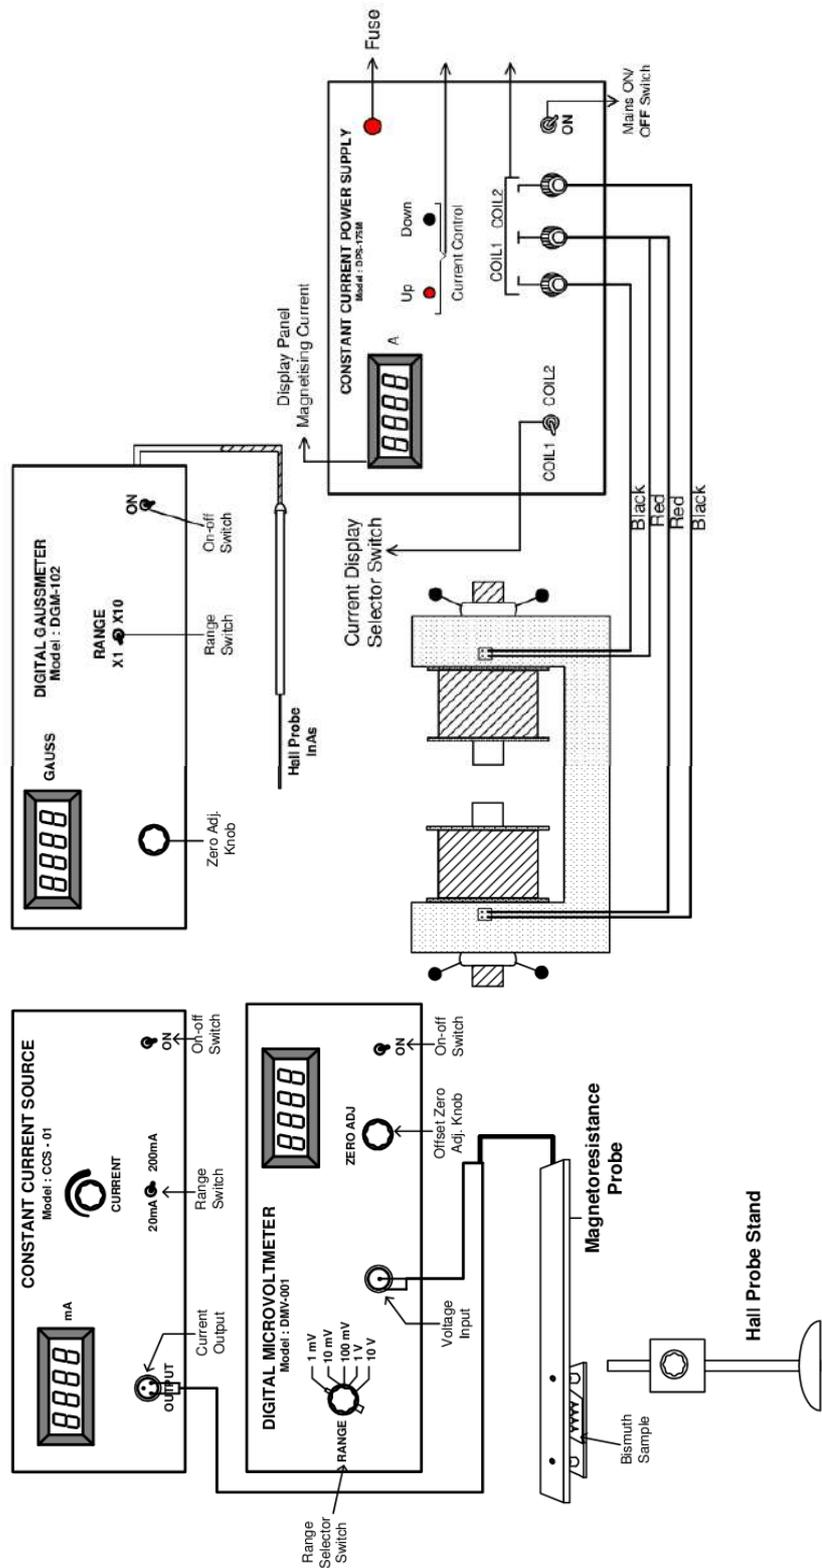

Fig.1: Panel Diagram of the magneto-resistance set up
where l_1-l_2 is the length of the sample tube and A its area of cross-section and H_1 and H_2 are the magnetic field strengths along the z axis as indicated in the above figure. Now think of a physical balance in which the sample tube is hung from one side and is subject to a magnetic field. The other side has the standard weight pan as shown in figure 1. When the magnetic field is zero the weight of the sample is determined by the physical balance and is entirely due to gravity. When the field is switched on the magnetic force manifests as an apparent weight change of the sample (will the weight increase or decrease? How is this related to magnetic nature of the sample?). The force can easily be measured in terms of a weight by determining the new weight of the sample. This is known as a Guoy balance after the French physicist Louis Georges Guoy. A modern version of the Guoy balance available in the laboratory uses a digital balance instead of a physical balance.
2. Determine the area of cross-section of the tube. Suspend the empty glass tube as shown in Fig.1 and find its weight in zero magnetic field.
Fig. 1. The conventional Guoy balance. NS is an electromagnet with power supply and AB is the experimental glass tube. **In your experiment the physical balance will be replaced by an accurate digital balance.**